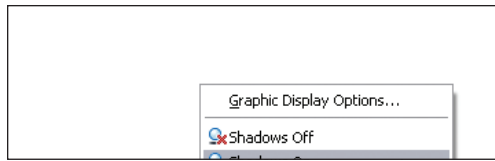
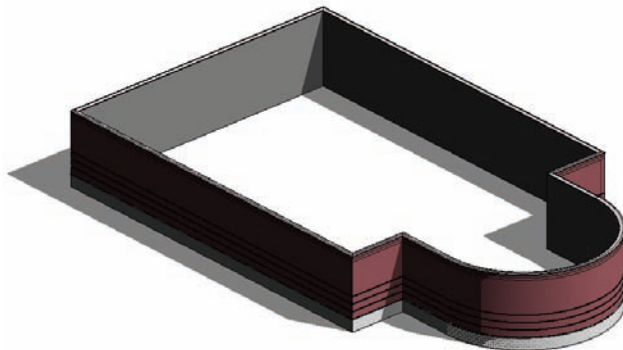

FIGURE 1.43 Shadows create a nice effect, but at the expense of RAM.
FIGURE 1.45 The 3D model with shading and shadows
3. Again on the View Control bar, select Shadows Off and turn the shadows on, as illustrated in Figure 1.43, and again in Figure 1.45.
TIP The best way to navigate a 3D view is to press and hold the Shift key on the keyboard. As you holding the Shift key, press and hold the wheel on your mouse. Now move the mouse around. You will be able to dynamically view the model (see Figure 1.45).